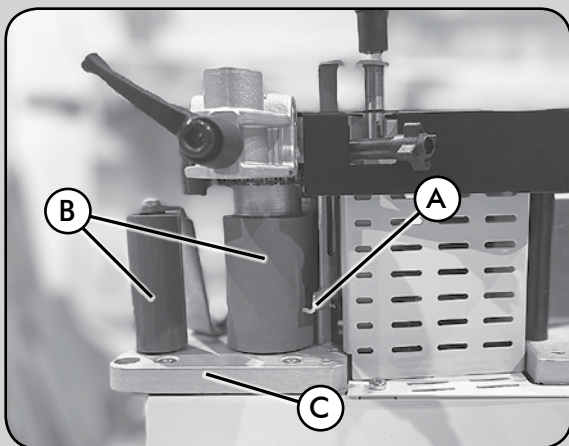

Fig. 21
**Tape exit guide and tape guide springs A (Fig. 21):** Remove adhesive residues with a cloth soaked in Netspray.
**Silicone rollers B (Fig. 21):** Clean them with a cloth soaked in Netspray.
**Exit surface C (Fig. 21):** Remove adhesive residues with a wooden spatula. To keep the machine in optimal condition and minimize maintenance tasks, use Virutex's silicone-free anti-adherent CANTSPRAY.